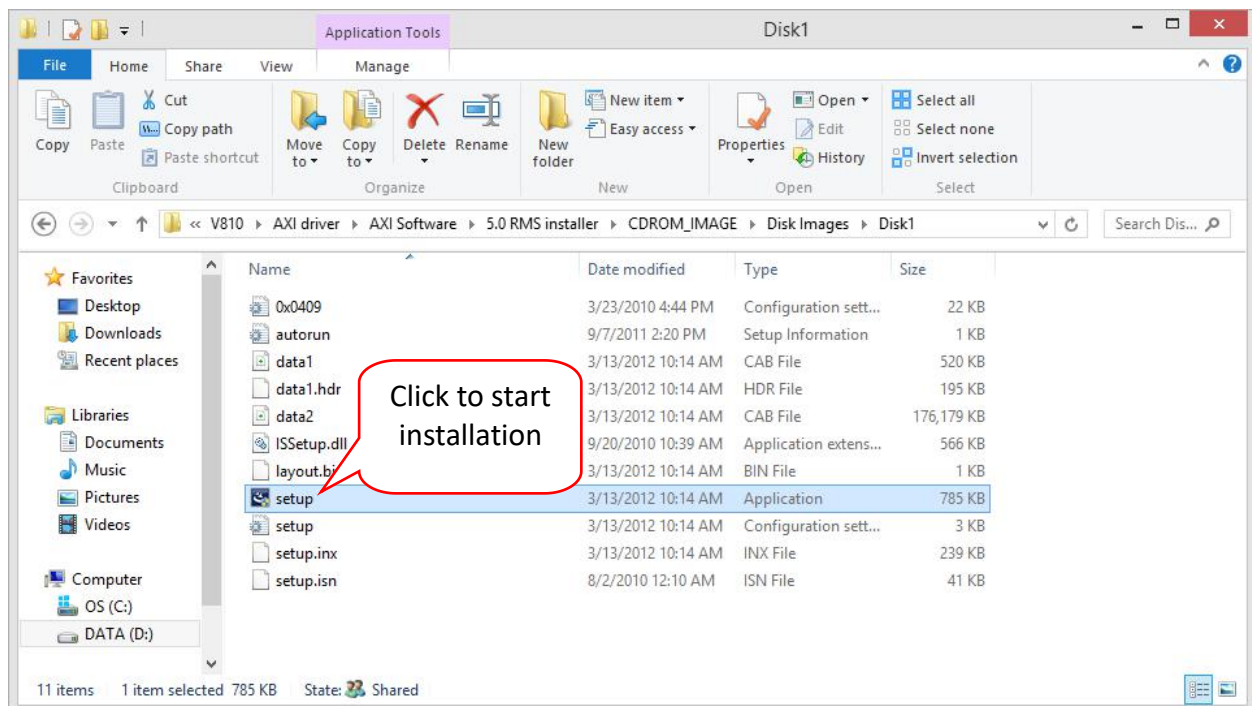

Figure 26 RMS Installer
8. Go to Device Manager (RMS device) and check for the Motion Controller as Figure 26.